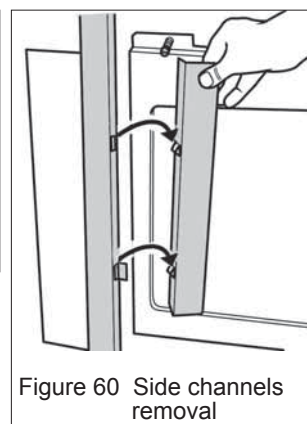

Figure 60 Side channels removal
- Lift and unhook the two side channels. See figure 60.